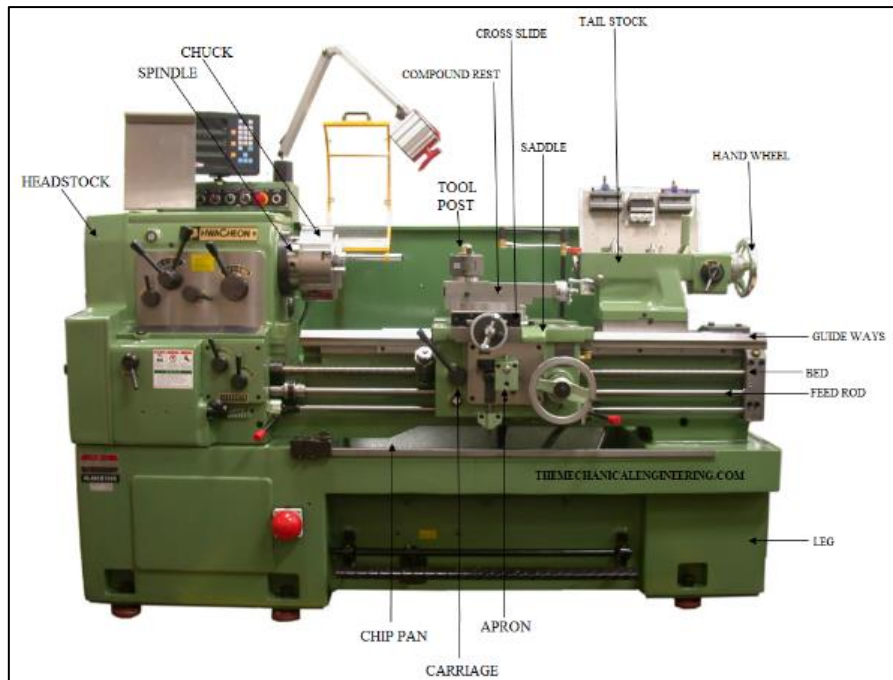

Figure 1: Lathe machine
- 3) Evaluate the force components using Merchant's circle (See Fig. 1) and material properties (given shear strength of the work piece which is Al alloy = 200 MPa).